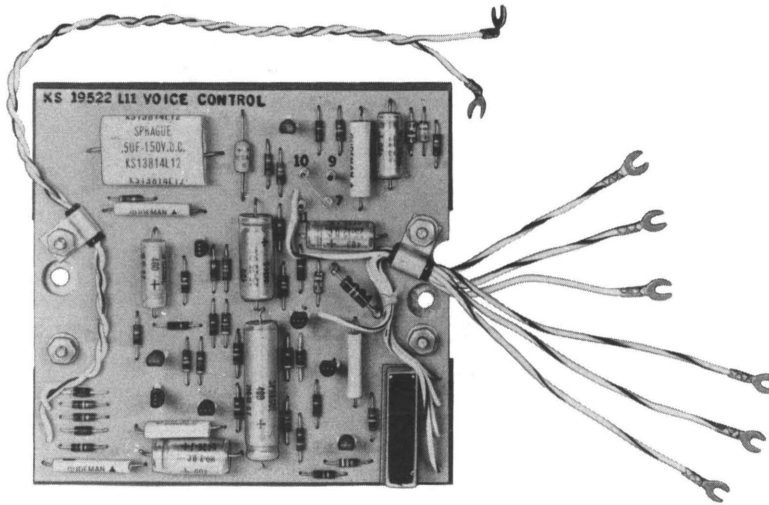

Fig. 4—KS-19522, List 11 Voice Control, Unmounted
- Control, Voice, KS-19522, L11, Fig. 4 (provides automatic disconnect—see 2.03) required for No. 1 Crossbar
- Disconnects from telephone line on signal from customer unit (opening of ready leads), battery reversal or momentary open from CO, or, at the end of a predetermined timing interval in the absence of speech when the KS-19522, List 11 voice control (Fig. 4) is provided.